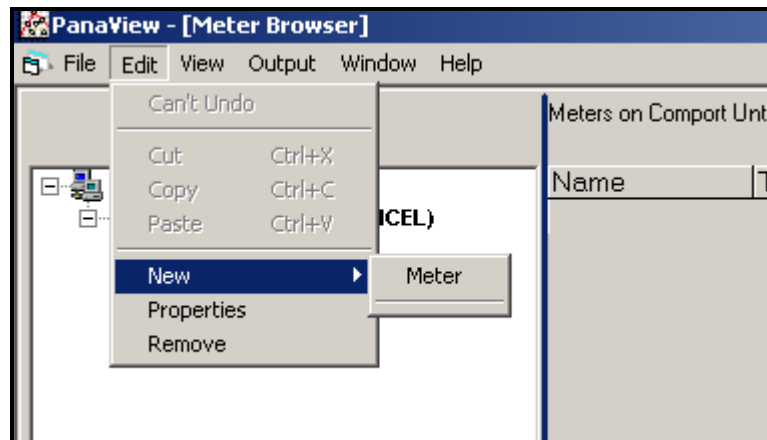

Figure C-4: New Option in the *Edit* Menu
2. Click on the *New* option in the *Edit* menu (see Figure C-4 below).